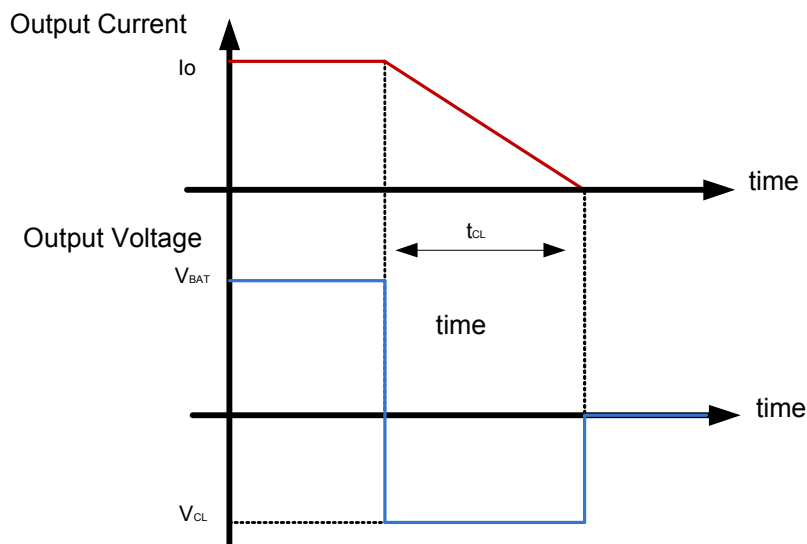

Figure 22. Simplified negative output clamp waveform
In case of an inductive load (L), the energy is dissipated after the turn-off inside the N-channel MOSFET. When $t_{CL} (= I_o \times L / V_{CL}) > 1.0\text{ ms}$, the turn-off waveform can be simplified with a rectangle as shown in Figure 22.